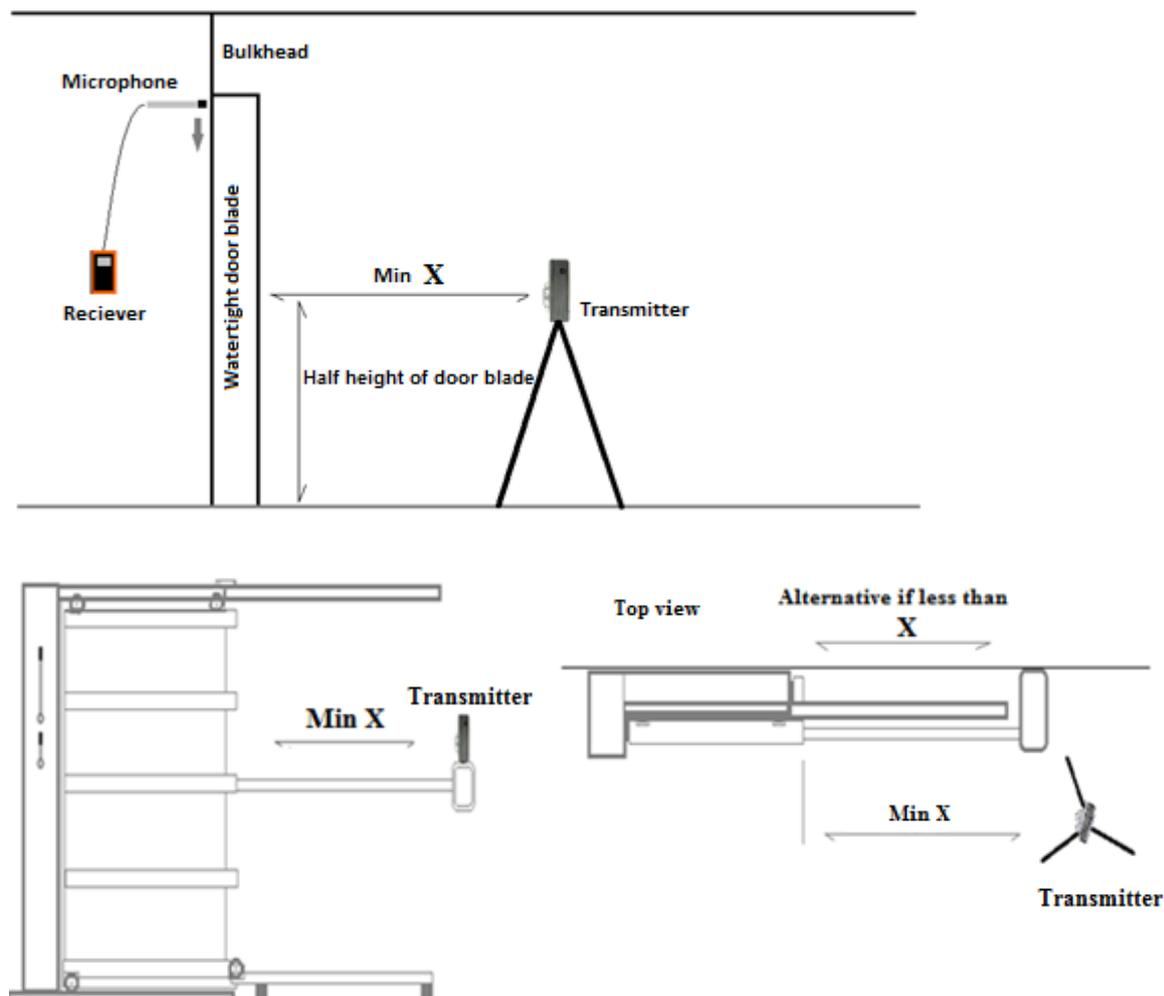

Figure 8.4 Minimum distance from door under test
Position the transmitter at a distance not less than the maximum dimension of the door, e.g., if the door is 2000mm x 1100mm, the distance X should not be less than 2000mm (See Figure 8.4)
Note: Some doors have a greater width (W) than height (H) so W becomes X in Figure 8.4.